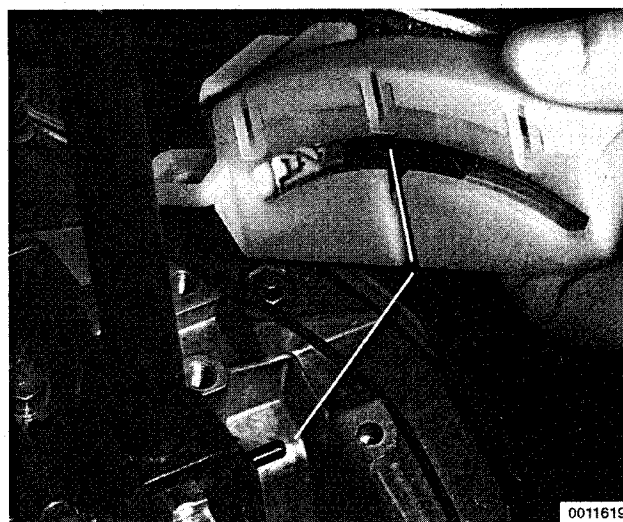

Fig. 9. Contact slide in switch aligns to slot on switch and pin on lever.
3. Remove gear position/neutral safety switch by moving selector until pin on lever aligns with slot on switch. Pull switch straight up and off. See Fig. 9.